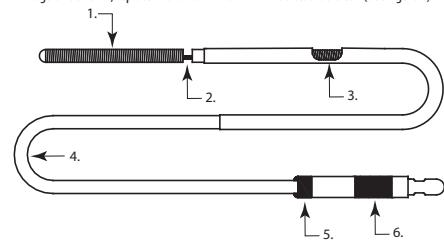

Figure 1
- Slowly advance the Axium™ Prime Detachable Coil out of the introducer sheath into the palm of your gloved hand and inspect for irregularities of the coil or the detachment zone. Due to potential risks of irregularities, a visual search should be performed. If irregularities exist, replace with a new Axium™ Prime Detachable Coil (See Figure 1).